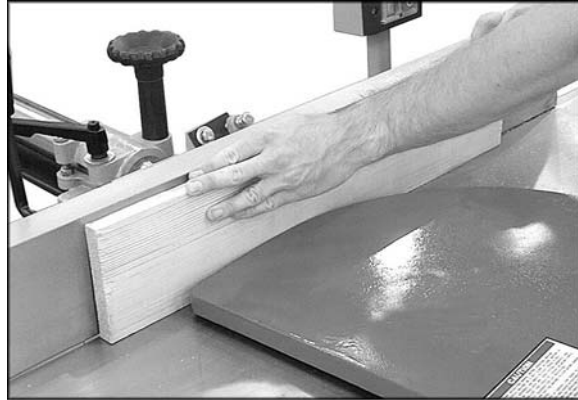

Figure 26
This is the most common operation for the jointer. Set the fence to the 90-degree stop and thus square with the table. Depth of cut should be the minimum required to obtain a straight edge. Do not make cuts deeper than 1/8" in a single pass. Hold the best face of the workpiece firmly against the fence throughout the feed. See Figure 26.
**⚠ WARNING** Always use a hold-down or push block when surfacing short stock or stock less than 3 inches thick. Figure 26 shows push blocks being used for surfacing.